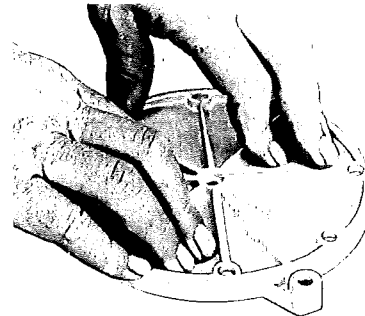

FIGURE 8
- b. Should an uneven or warped condition exist, lap castings on a surface plate until condition is corrected. (Figure 8) **DO NOT PROCEED UNTIL THIS WORK HAS BEEN COMPLETED!** Severly warped parts will require machining or replacement.